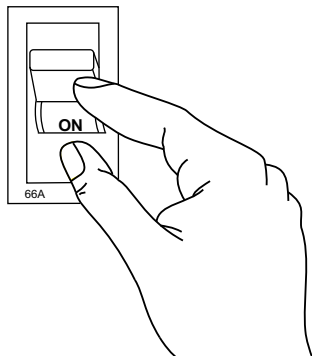

Figure 75. Main Circuit Breaker On
3. Place main circuit breaker (Figure 75) to **ON** position.
8. Place the main breaker (Figure 75) back to the ON position.